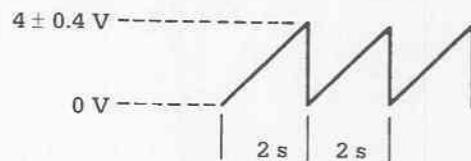

Figure 7-3
2. Connect an oscilloscope to TP-15 and set it for 1 V/division vertical scale and 0.5 s/division horizontal scale. Adjust potentiometer RM until the oscilloscope displays a sawtooth waveform having a 2 ± 0.04 second ramp. The waveform should look like Figure 7-3.